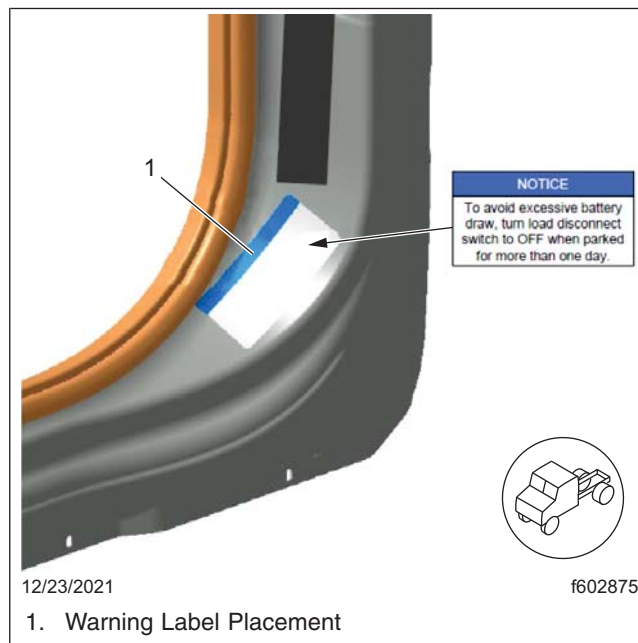

Fig. 26, Door Jamb Warning Label
1. Apply the door jamb warning label (part number 24-01618-002) as shown in Fig. 26.